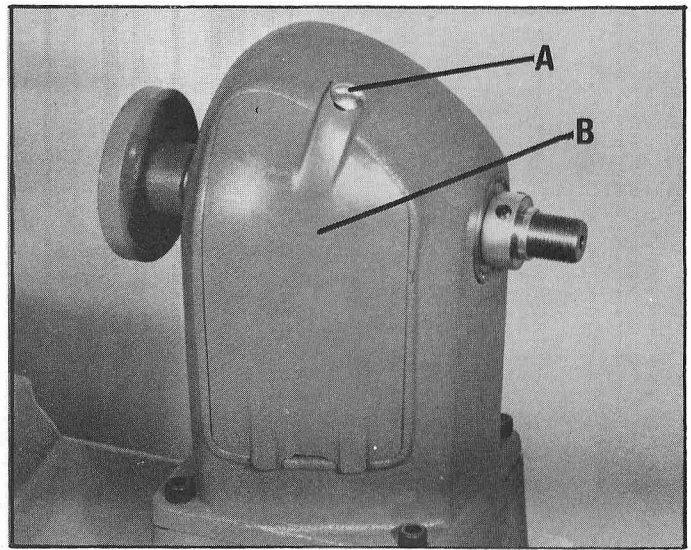

Fig. 19
2. Loosen screw (A) Fig. 19, and remove headstock rear guard (B).
5. Replace rear headstock guard (B) Fig. 19.